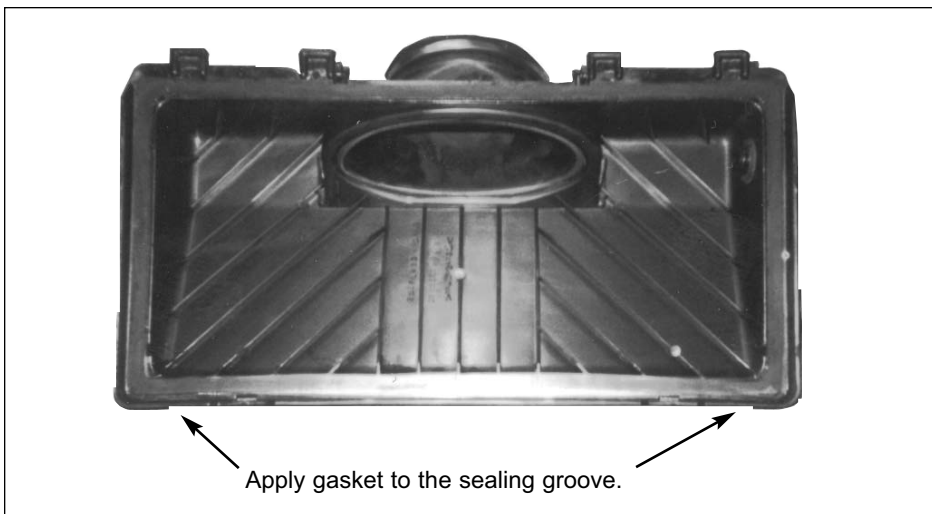

Fig. 1
- 4) Apply the supplied gasket to the sealing groove of the airbox base (see fig. 1 below).
- 6) Apply the supplied gasket to the sealing groove of the airbox top (see fig. 1 above).